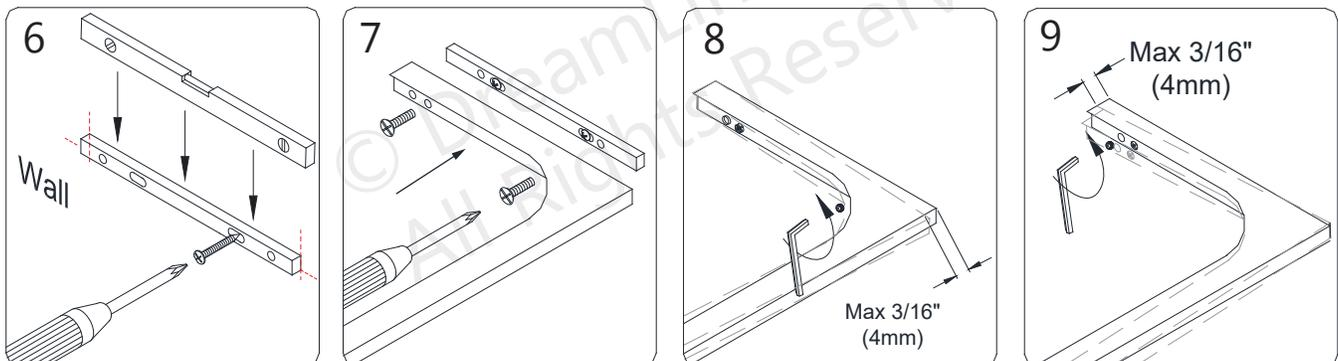

Fig 12
12. Attach the **Wall Plate (#4.6)** to the wall using the **ST4.2 x 40 Truss Head Screws (#4.7)**. Re-attach the **L-Bar™ (#4.3)** to the **Wall Plate (#4.6)** using the **Flat Head Screw M5x14 (#4.8)**. Adjust the angle of the **L-Bar™** if necessary by using the **Wall Plate Adjustment Set Screws (#4.9)**. (**Fig 12**)